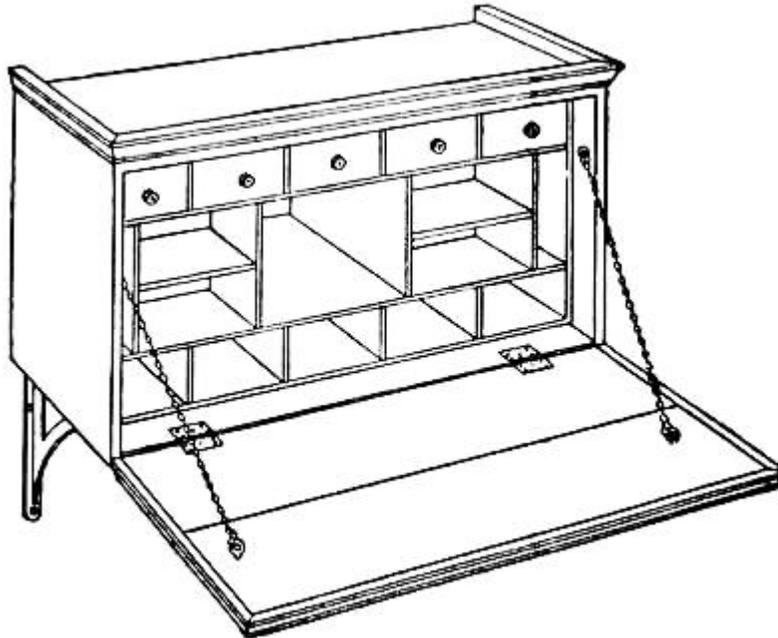

FIG. 53.—A Writing-desk.
**The Writing-desk** shown in Fig. 53 is constructed out of a box, and makes a pretty piece of furniture when completed.
The drop-front should be hinged to the box with two hinges placed on the inside, as shown in Fig. 53, and brass chains attached to screw-eyes screwed into it and the inside of the box.